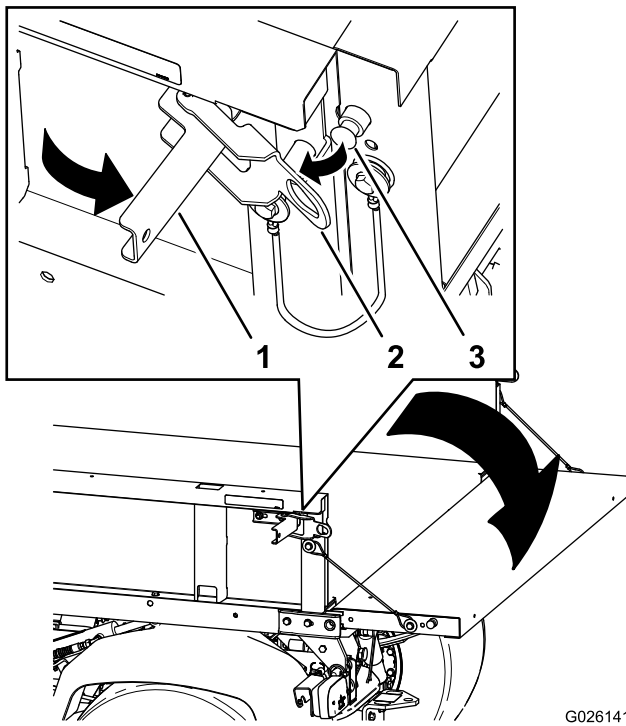

Figure 13
2. Open the latches on the left and right side of the cargo box and lower the tailgate (Figure 13).